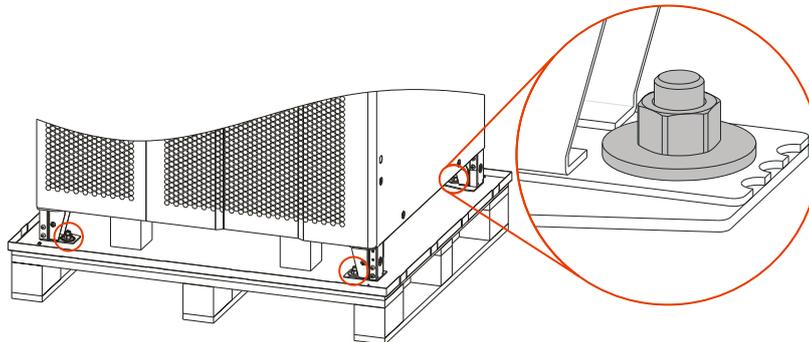

Figure3-6 Bolts position
Step 5 After checking, unscrew the bolts that connected with device and fixed part by socket wrench, the bolt position is as shown in Figure3-6. (Here take the PS400KVA as an example.)
Step 6 After checking, unscrew the bolts that connected with device and wooden bracket by socket wrench, the bolt position is as shown in Figure3-6. (Here take the PS400KVA as an example.)